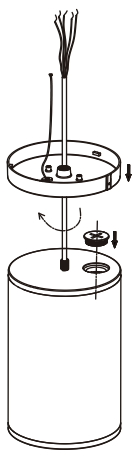

fig. 3
3. Screw back knock out cover, screw back and secure the fixture mounting canopy to the fixture on the center nipple. (Figure 3)